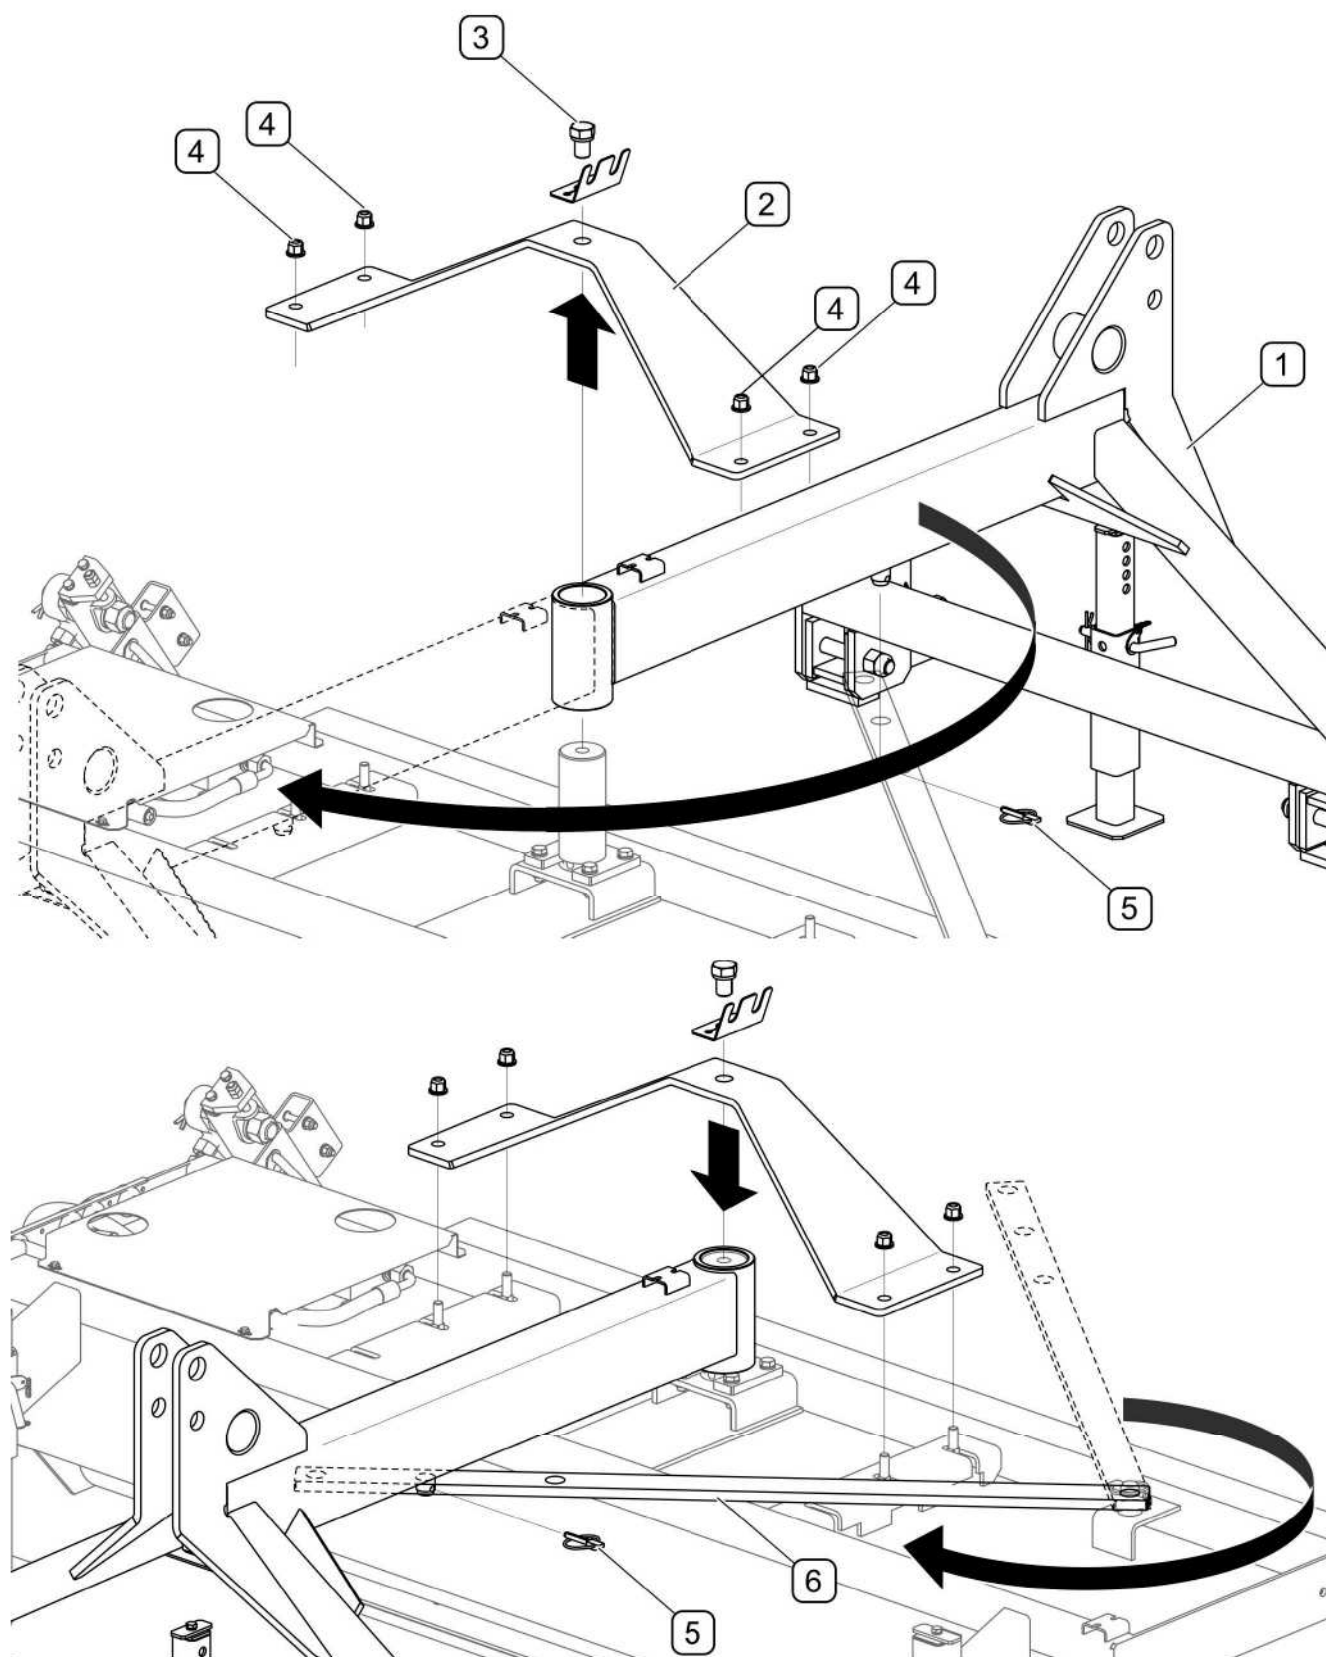

FIG. 4.9 Setting the sweeper for operation in front of the carrying vehicle.
To adapt the sweeper for operation in front of the carrying vehicle (FIG. 4.9), remove the cotter pin (5) which locks the flat bar (6), unscrew the main pivot bolt (3), unscrew the four nuts (4) mounting the bracket (2) to main pivot and rotate the entire suspension frame (1) by 180° and then screw the bracket (2). Turn the flat bar (6), place on the pivot of the suspension frame lock with cotter pin (5). For the sweepers equipped with the sprinkler system remove nuts (4) and remove the water tank with brackets before removing the bracket (2). Re-attach the water tank after rotating the suspension frame (1) and tightening the bracket (2) using bolt (3).